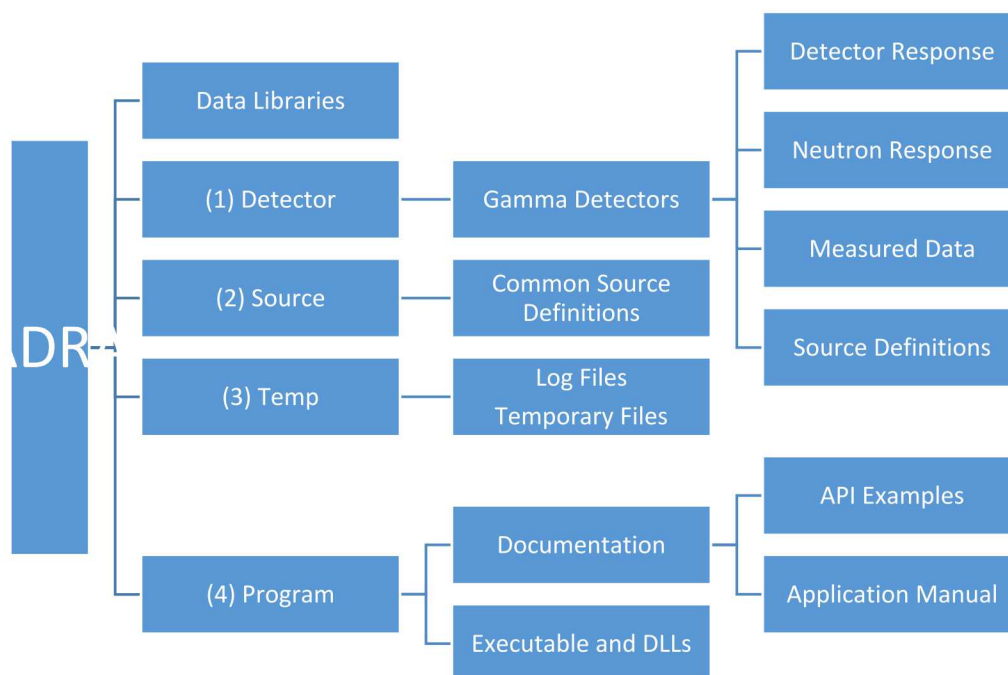

Figure 2. Overview of GADRAS Directory Structure
Within the root GADRAS directory (default is C:\GADRAS, or C:\GADRAS-DRF), there are four primary directories: (1) **Detector**, (2) **Source**, (3) **Temp**, and (4) **Program** (Figure 2).